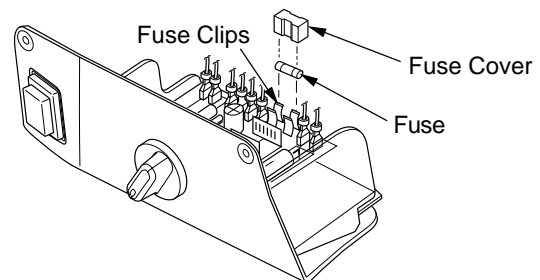

**Figure 22 - Sanding Rotor**
15. Place fine grade sandpaper (600 grit) on flat surface. Sand rotor lightly in “figure 8” motion four times (see Figure 22).